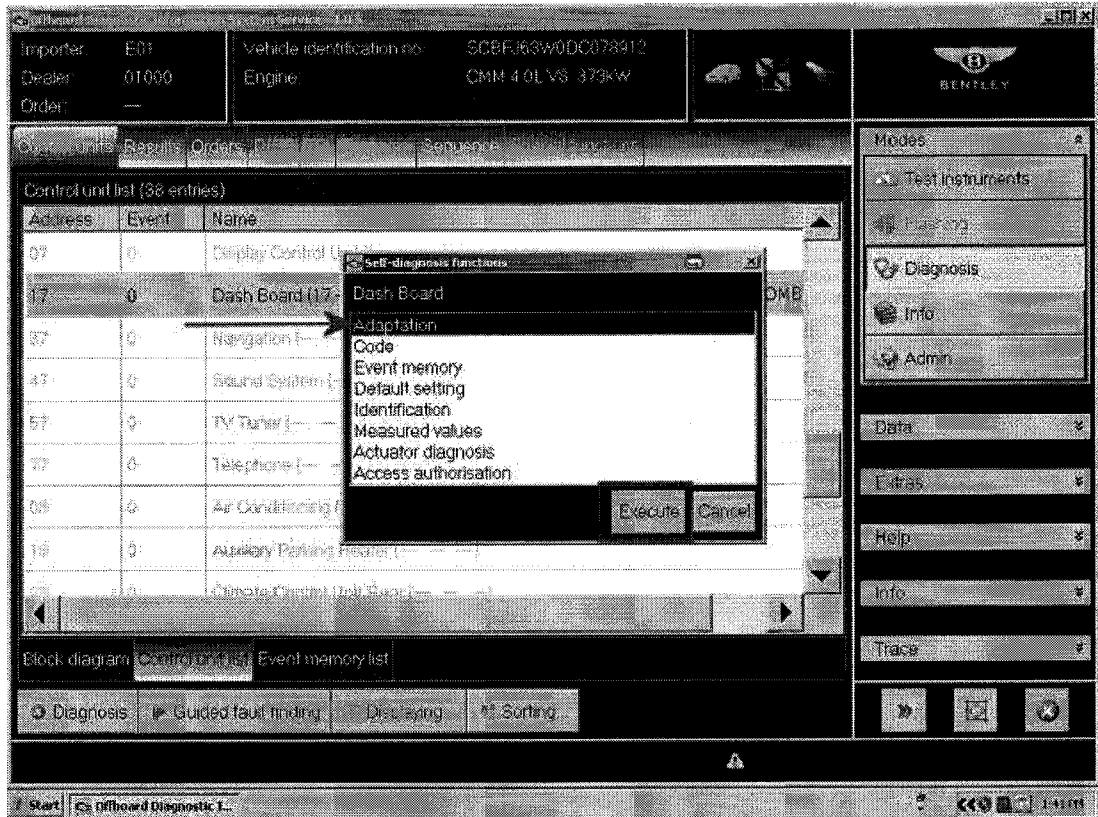

Figure 4
10. Select *Adaptation* then *Execute* (see Figure 4)